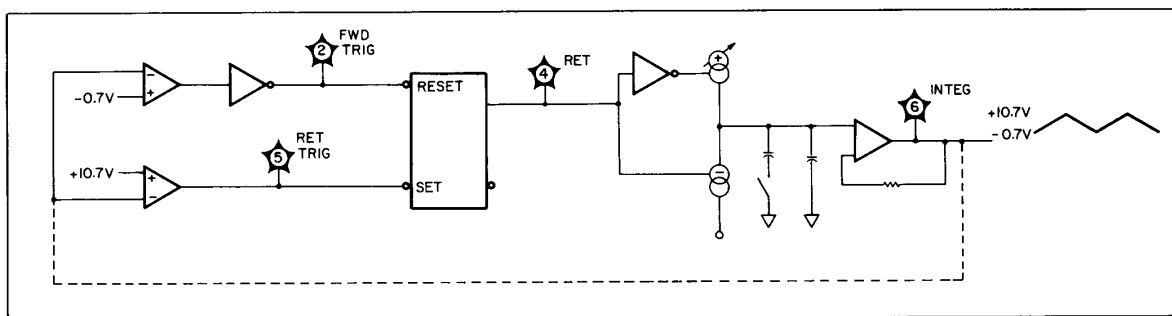

Figure 8-11. Sawtooth Generator, Simplified Schematic
**AUTO Mode.** A simplified schematic of the Sawtooth Generator operating in the AUTO sweep mode is shown in Figure 8-11. The sawtooth waveform is generated by the charging and discharging of the integrating capacitor C3 on the positive input to buffer U1. During trace, C3 is charged by the Trace Current Source; during retrace, C3 is discharged through the Retrace Current Source.